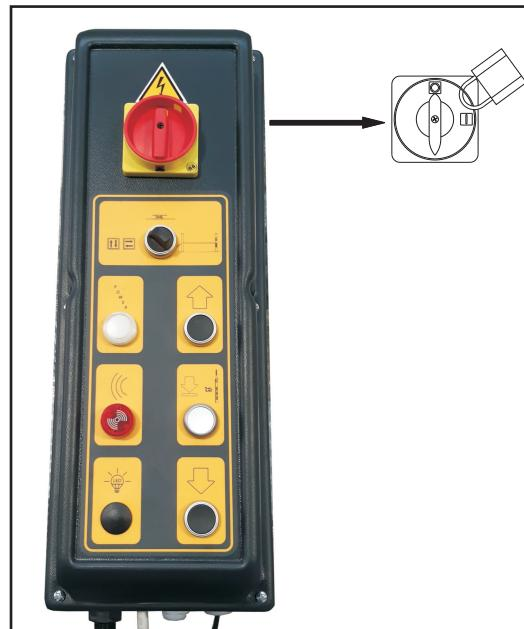

Fig.60
- The main switch on the control panel **MUST BE LOCKED OUT IN POSITION “0”**; see figure 60.